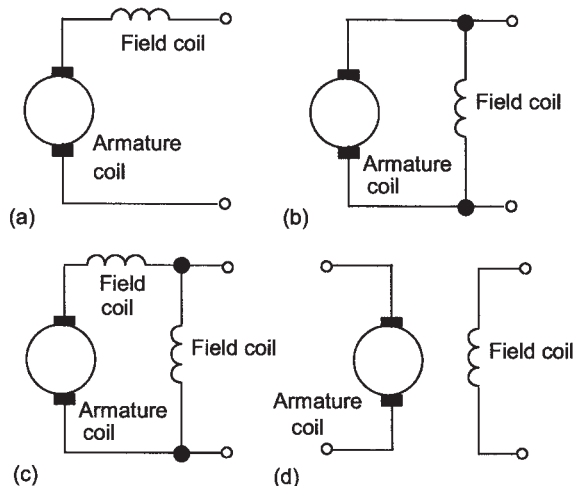

Figure 19.7 D.c. motors: (a) series, (b) shunt, (c) compound, (d) separately excited
D.c. motors with field coils are classified as series, shunt, compound and separately excited according to how the field windings and armature windings are connected (Figure 19.7).